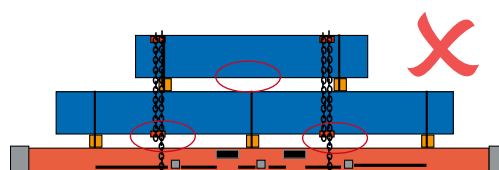

Fig. 5: Avoid misalignment of bearers and chains. Packs **MUST** not bend.
- Align dunnage vertically when packs are stacked on top of one another. Packs **MUST NOT** be able to bend. (Fig. 5)